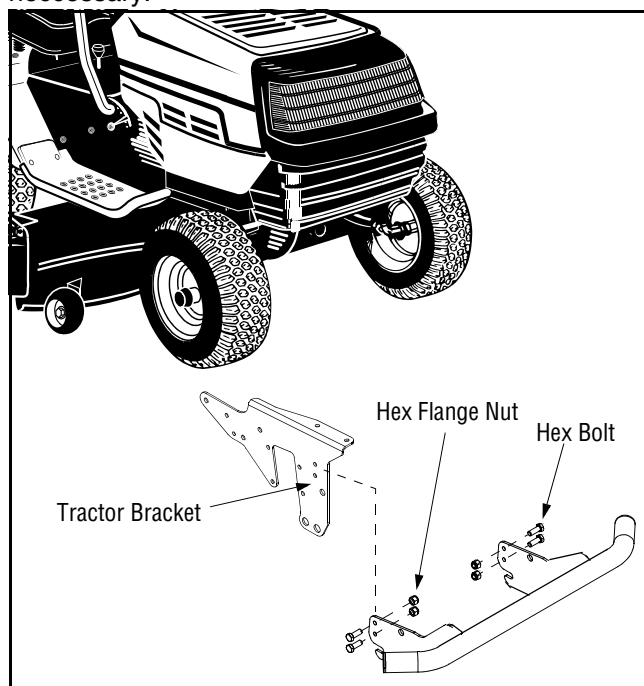

Figure 3
**NOTE:** The front bracket is exploded from the tractor for clarity in Figure 3.